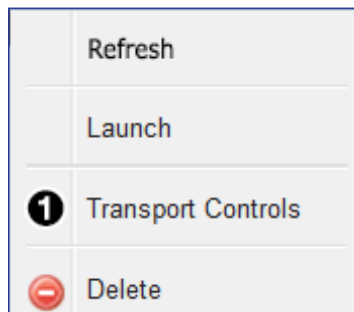

Figure 120. Right-click Access to Transport Controls
The transport bar can also be launched by <right-clicking> the preset in the **Preset List**, then choosing **Transport Controls** (see figure 120, ❶).